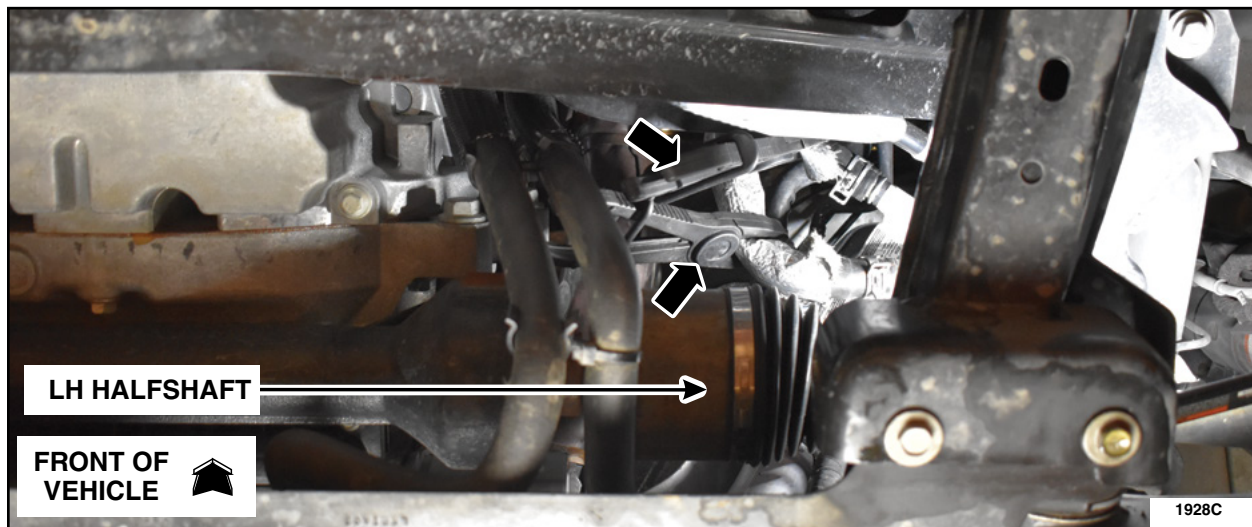

FIGURE 3
5. Apply hose clamp-off pliers to the rear heater coolant lines at the front left hand (LH) of the vehicle between the engine crossmember and subframe near the front LH halfshaft. See Figure 3.